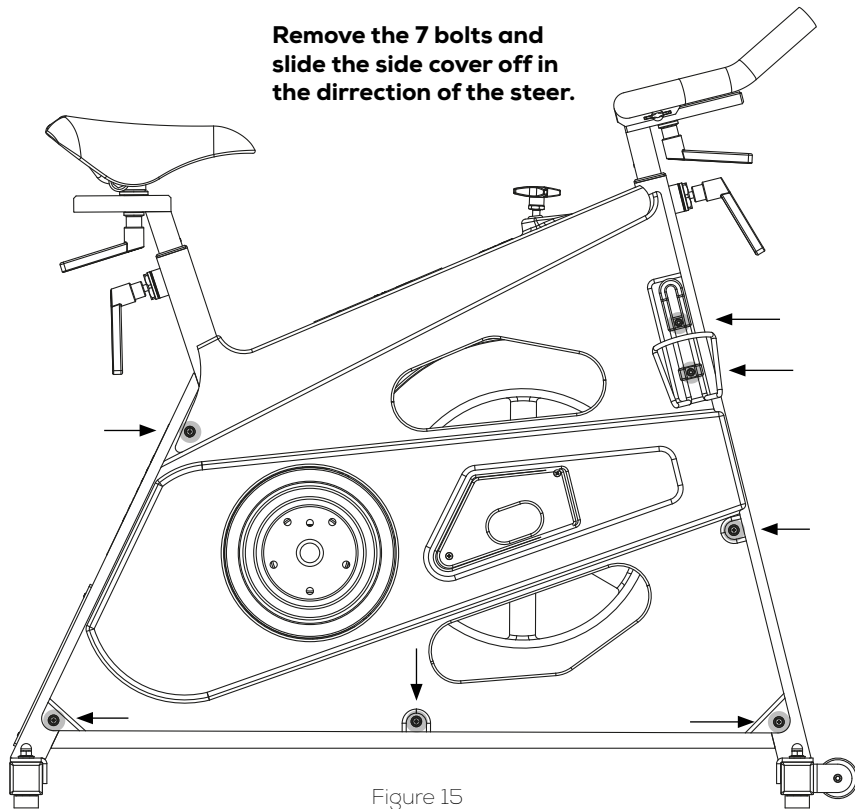

Figure 15
- 2) Loosen the two bolts on the bottle holder with a 4 mm Allen wrench. See figure 15.
- 2) Loosen all the screws holding the side cover with a PZ2 drill bit. See figure 15.